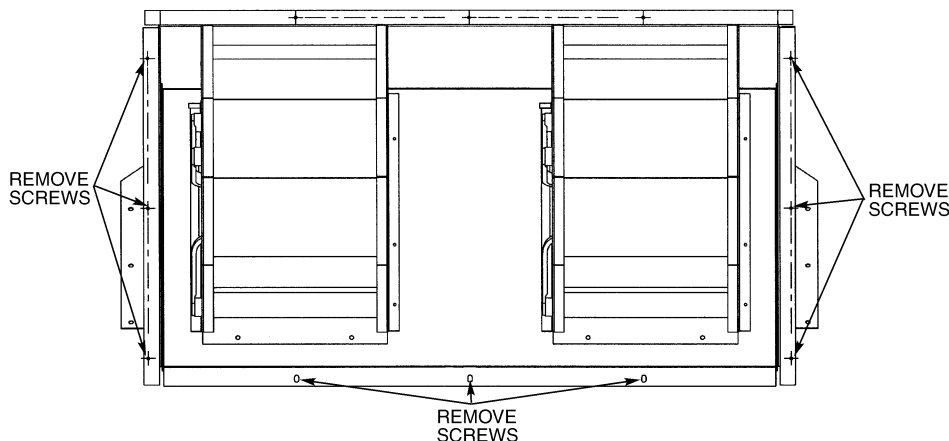

Fig. 21 — Power Exhaust or Barometric Relief Damper Mounting Details
1. Remove 9 screws holding each damper assembly in place. See Fig. 21. Each damper assembly is secured with 3 screws on each side and 3 screws along the bottom. Save screws.